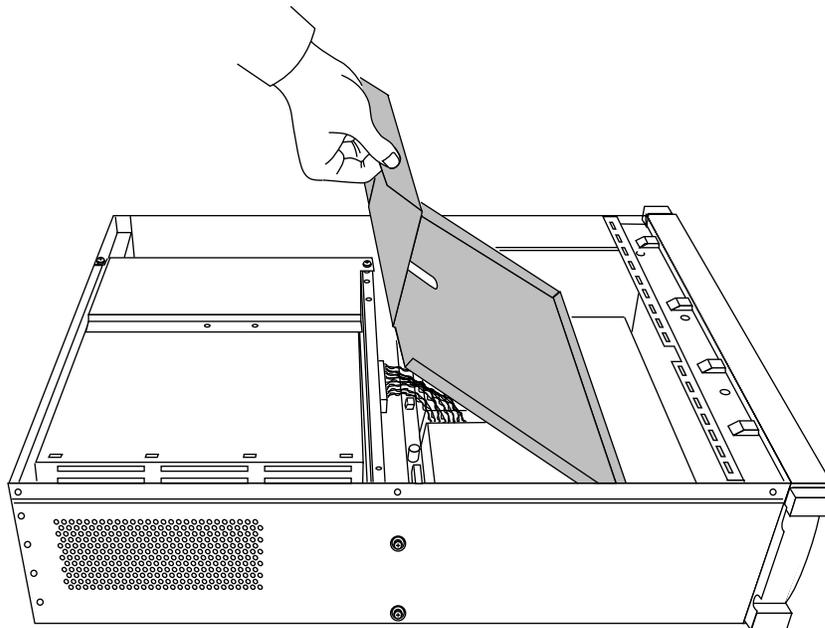

Figure 5-22 Lifting the Power Supply Shroud From the GIGACHannel Chassis
2. Lift the power supply shroud out of the chassis, as shown in Figure 5-22.